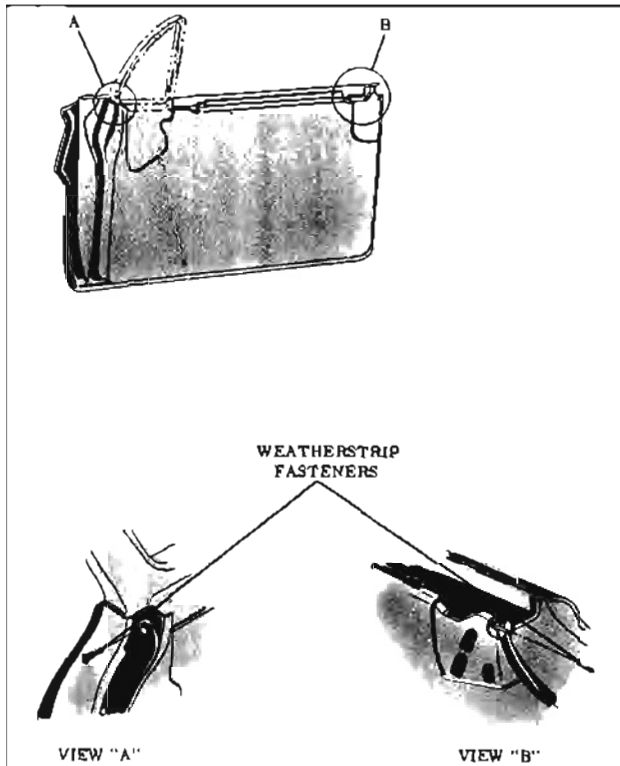

Fig. 16-15 Front Door Weatherstrip
1. On front doors, remove snap fasteners securing ends of weatherstrip at belt line of door hinge and lock pillar panels. (Fig. 16-15)